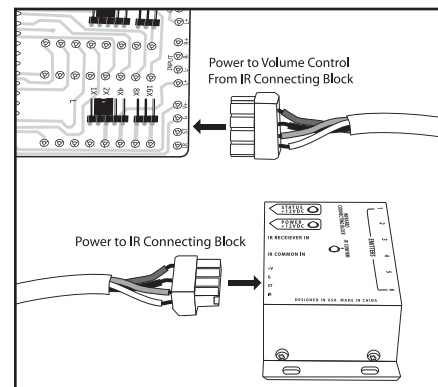

Figure 6
- 5.) Wire the power in terminal to the power out terminal on the IR connector block; see Figure 6.